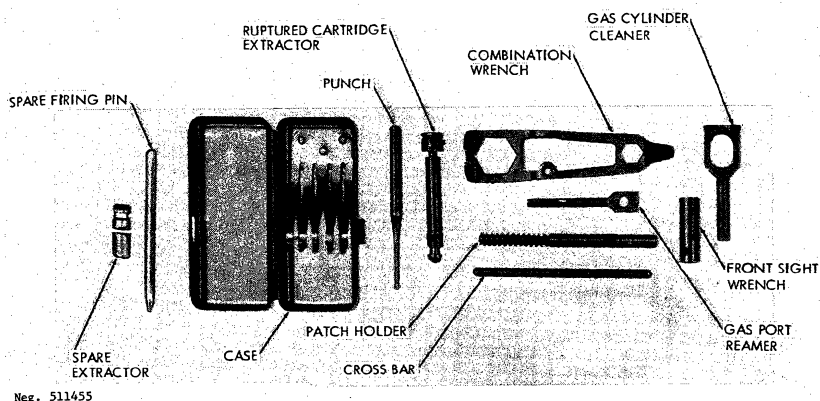
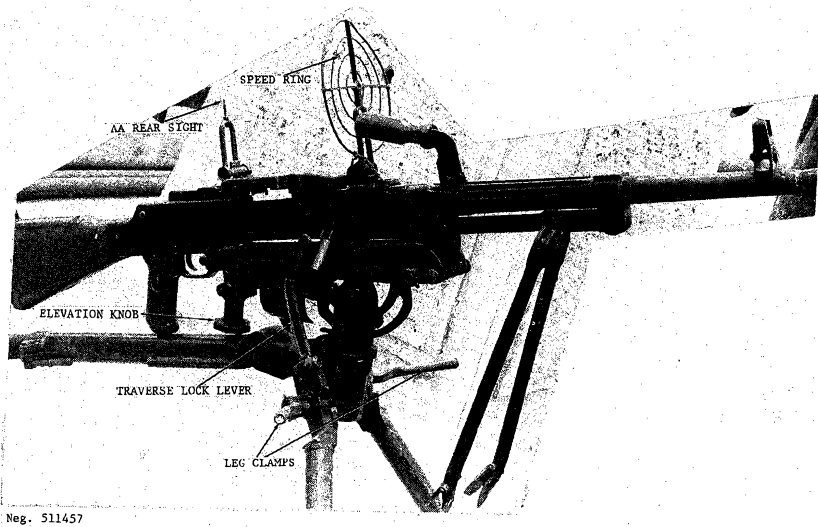

Figure 156. RPD accessories.
Figure 158. Type 67 on its tripod mount.
- (1) Combination tool kit.
- (2) Belt drums.
- (3) Fabric sling.
- (4) Night-sighting device.
- (5) Blank-firing device.
b. The combination tool kit (fig 156) contains a combination wrench and screwdriver (for use in turning the gas regulator and bipod screws), a gas cylinder cleaner, a reamer for the gas port, a front sight wrench, ruptured cartridge extractor, a pin punch, a cleaning rod tip, and a handle bar. The handle bar is inserted into the front-sight wrench or the gas cylinder cleaning tool in order to rotate them. The ruptured cartridge extractor is
b. The Type 67 machinegun is a gas-operated, belt-fed, bipod- or tripod-mounted (fig 158) automatic weapon equipped with a quick change barrel. This gun utilizes the design features of several other weapons: the Russian DP trigger mechanism (para 177), the Czechoslovak ZB30 bolt mechanism (para 195), and a modified Maxim-type feed mechanism. The quick change barrel system is copied from the Russian SG43 (para 215) and the gas regulator is similar to that in the Soviet RPD (para 179). The Type 67 machinegun cannot use the pull-out type feed belt used in most Communist weapons, but must rather use a push-out type belt similar to that used in the Czechoslovak Vz59 machinegun (para 209).
b. The antiaircraft sights (fig 158) consist of a permanently mounted post on the top of the rear sight (fig 156) and an attachable speed ring sight. The speed ring (fig 158) is attached by aligning its base with the dovetail cuts on the front top of the receiver, and then sliding the sight rearward until its lock snaps into place. To remove the AA sight, lift the lock and slide the sight forward.
c. The tripod mount is set up by loosening the leg clamp (fig 158); swinging the legs to the desired position and tightening